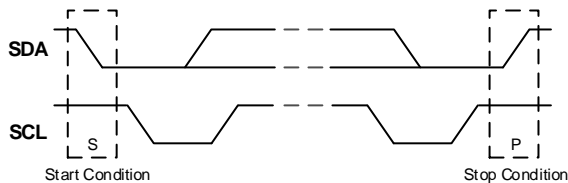

Figure 18: Start and Stop Conditions
The start (S) condition and stop (P) condition are signaled by the master device, which signifies the beginning and the end of the I²C transfer. The start condition is defined as the SDA signal transitioning from high to low while SCL is high. The stop condition is defined as the SDA signal transitioning from low to high while SCL is high (see Figure 18).